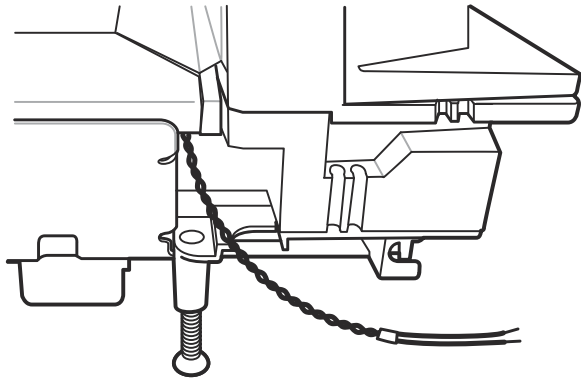

Figure 3-26 *Antenna Leads for Checkpoint Controller Connection*
- The horizontal Checkpoint antenna should be set into place in the middle housing of the MP70XX, under the platter, and the antenna leads for controller connection should be placed as shown in Figure 3-26. (See page 1-8 for cable routing.)
4. Route the antenna leads, with partly-stripped ends, as pictured in Figure 3-26 hanging several inches below the MP70XX so that the Checkpoint controller lead wires can tie into the antenna.